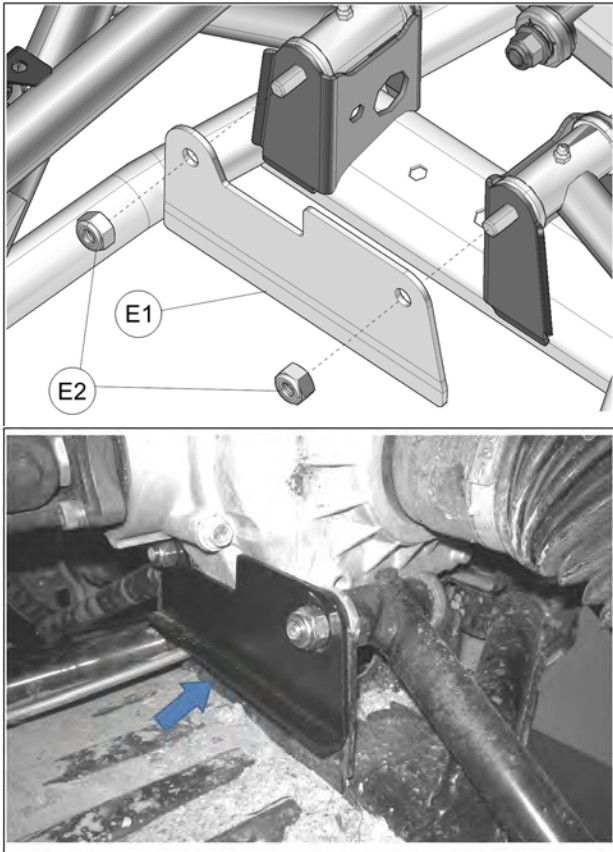

Fig. 13
14. Insert the suspension stiffener plate (E1) on the lower a-arms mounting bolts. Secure the stiffener plate using the nylon nuts (E2) provided. Tighten nuts to 50 N•m [37 lb•ft] of torque. Refer to Fig. 13